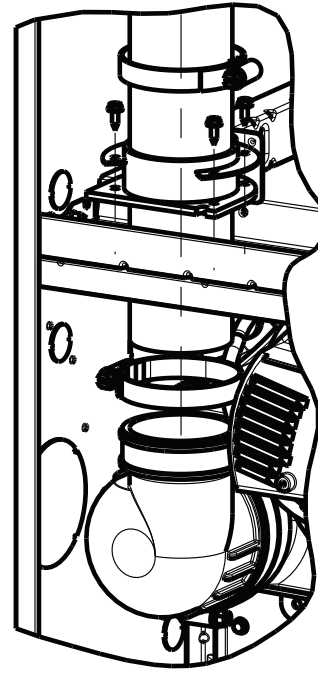

Fig. 5 - Inducer Elbow and Left Blower Shelf Seal
3. Tighten the clamp around the outlet of the vent elbow and the clamp on the blower shelf seal assembly. Torque the clamps to 15 lb-in (1.7Nm). See Fig. 5.